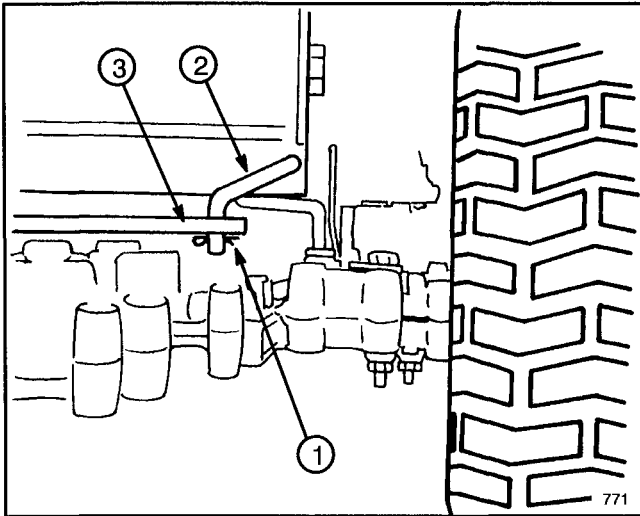

Figure 32
1. Remove cotter pin from rod on right side of transaxle as viewed from the rear of the unit (Fig. 32).
2. Lift rod out of bracket hole (Fig. 32).